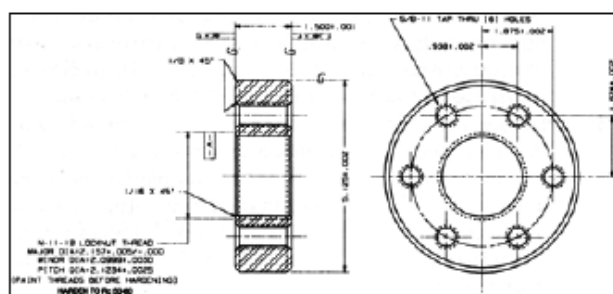

Figure 13 - Inside Ring Material - Steel, Hardness - Rc-25 min
2. Use a set of feeler gauges with blades about 12 inches (300 mm) long for measuring clearances between the impeller lobes. These clearances are identified as “front” and “back”, and are measured with the impellers in the positions shown in Figures 13 and 14. The drive shaft rotation indicated is counter-clockwise. For opposite rotation, impeller positions are reversed from those shown in Figures 13 and 14, and the front and back identifications are interchanged. Fronts may be defined as the lobes that tend to contact during rotation because of pressure load and gear tooth wear; conversely, backs are the surfaces that tend to separate.